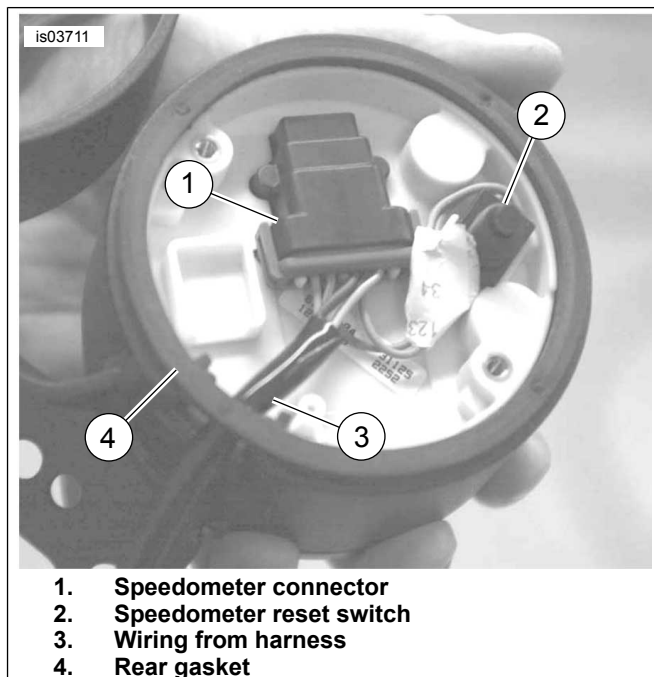

Figure 5. Speedometer Component Installation
13. See Figure 5. Obtain new speedometer/tachometer harness from kit. Place rear gasket in position and align gasket tabs. Insert speedometer wiring and connector between gasket (4) and speedometer making sure wiring rests in wire guide. Connect the speedometer connector (1). Work the rear gasket into space between speedometer and bracket by pushing speedometer against one side of bracket while pushing gasket into position at the opposite side.